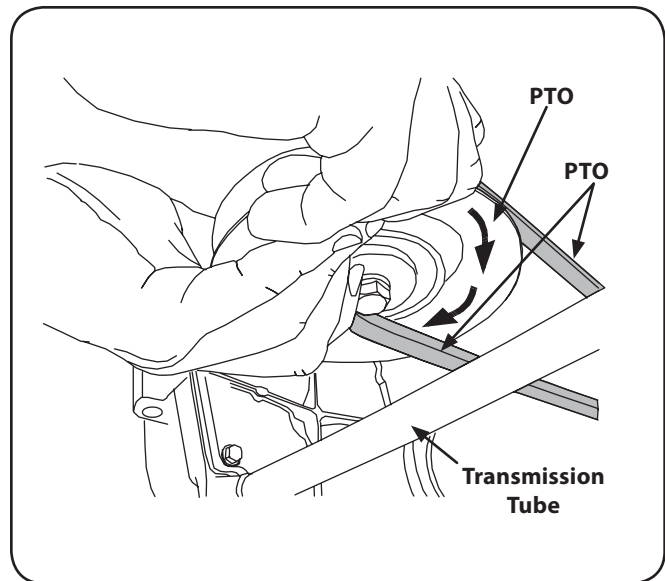

Figure 7-4
- While still holding the belt downward, continue turning the PTO pulley until the belt is rolled off the pulley. Refer to Figure 7-4.
4. Pull the right side of the belt rearward and place the narrow V side of the belt into the PTO pulley. See Figure 7-4.
5. While holding the belt and pulley together, rotate the pulley to the left (See Figure 7-4). Continue holding and rotating the pulley and belt until the belt is fully rolled into the PTO pulley.